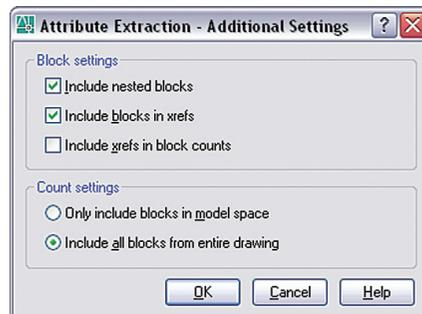

Figure 6. Choose which blocks to extract to your table, using the wizard tool.
2. Indicate which blocks to extract (Figure 6).